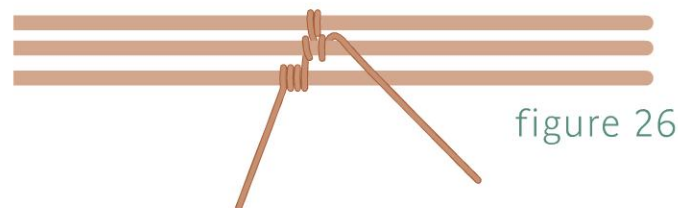

figure 26
- 6 Bring the weaving wire over Frame Wire 2; coil once (Figure 26).